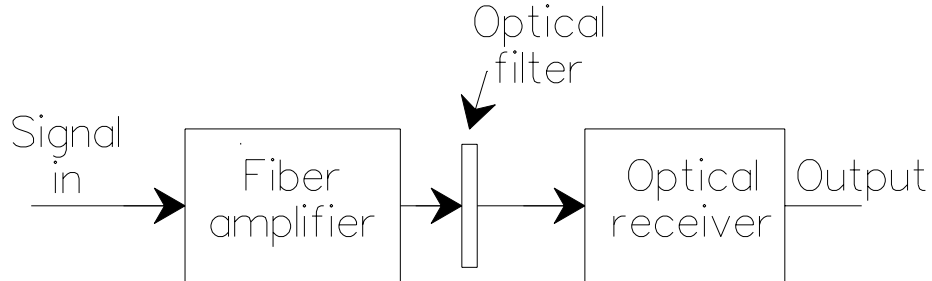

Figure 2: Problem 4.
4. Consider a fiber amplifier used as a detector preamplifier as shown in Fig. 2. The signal wavelength is 1550 nm and the bit rate is 1 Gb/s. The fiber amplifier has an unsaturated gain G_0 of 30 dB, a spectral linewidth of 25 nm centered on 1550 nm, and a $n_{sp} = 2$. The optical filter has a spectral linewidth of 1.5 nm, centered on a wavelength of 1550 nm. The detector is detector #3, operated as a pin diode (i.e., $M = 1$).